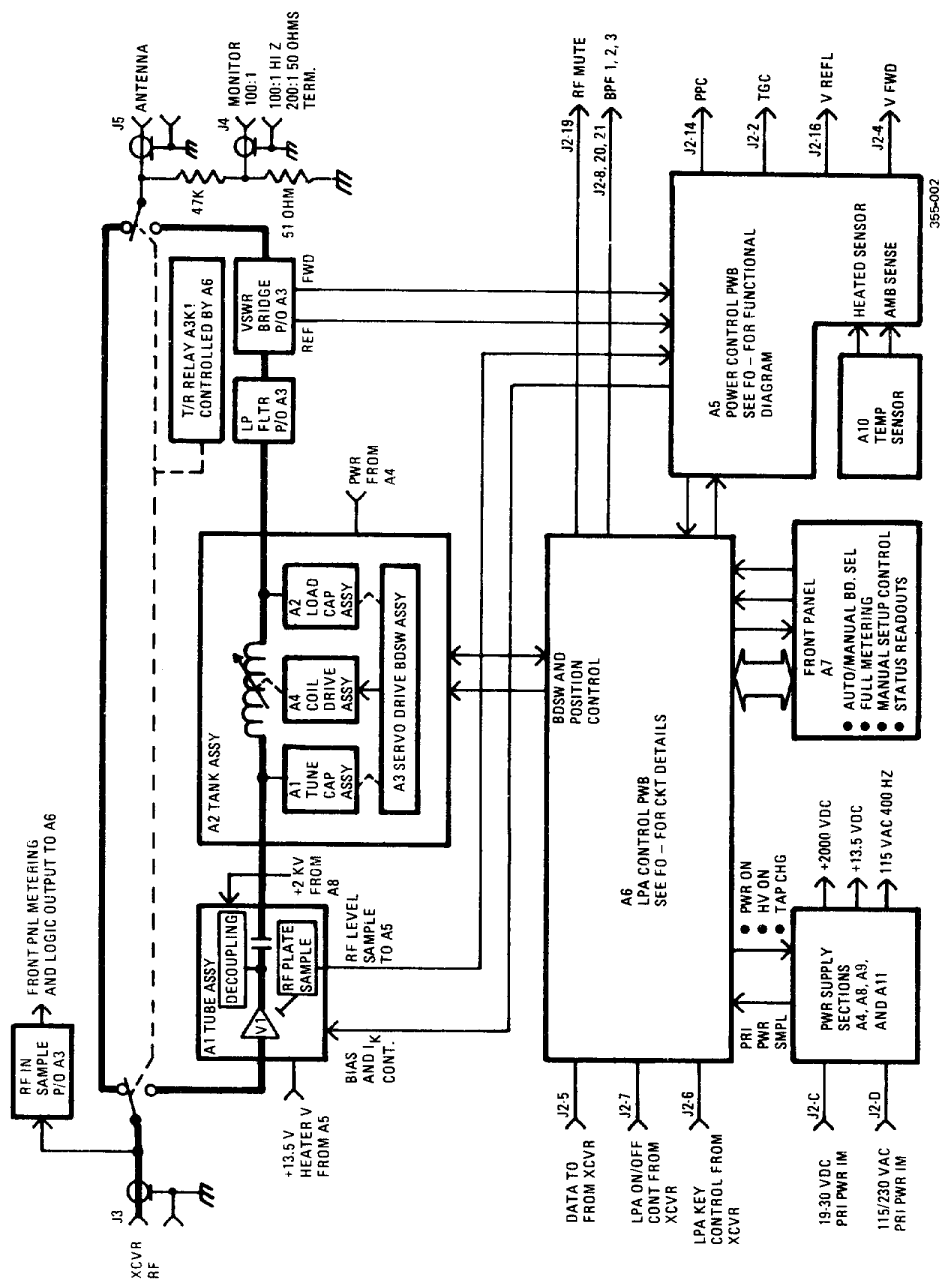

Figure 5-1. Functional Block Diagram
5-2. FUNCTIONAL ASSEMBLIES. Figure 5-1 is a simplified functional diagram of the 500 Watt LPA that shows all input and output functions, and includes all major component assemblies in a functionally related format. Each subassembly is functionally interrelated. The microprocessor controls these functions to automate and optimize performance for a wide range of conditions. It is important that the technician understand these interrelationships so that the equipment can be most effectively used and maintained. The twelve major subassemblies can be divided into four major subgroups as follows:
(1) Refer to figure 5-1. RF drive from the 100 Watt Transceiver enters the 500 Watt LPA at J3 on the rear panel and is routed by T/R relay A3K1 to the A1 tube assembly in the transmit mode. In the receive mode, A3K1 is deenergized and the J5 ANTENNA input is connected directly to J3 for receiver operation. T/R switching is controlled by the A6 PWB in response to an LPA Key Control input from either the 100 Watt Transceiver or the LPA front panel. The 100 Watt Transceiver RF input level is sampled and detected on the A3 assembly to develop metering and logic control signals.
(2) All amplification is accomplished by a single power triode operating in a grounded grid configuration. RF drive from the 100 Watt Transceiver is applied to the cathode circuit. Both cathode bias and cathode current for the power triode are controlled by the A5 Power Control PWB in response to both keyline and tune control signals. An RF plate voltage sample is sensed at the A1 Tube Assembly for use by the A6 Micro Control PWB Assembly for tuning and by the A5 Power Control PWB Assembly for protection against high plate voltage swings. Because of the power triode configuration, only one B+ voltage is required. The 2000 Vdc for this purpose is supplied by the Power Supply Group. The output of the A1 Tube Assembly goes directly to the A2 Tank Assembly.
(3) The plate impedance of the power triode of the A1 Tube assembly is transformed to the output antenna impedance, nominally 50 ohms, by the A2 Tank Assembly. The Tank Assembly contains four component subassemblies as shown in figure 5-1. All